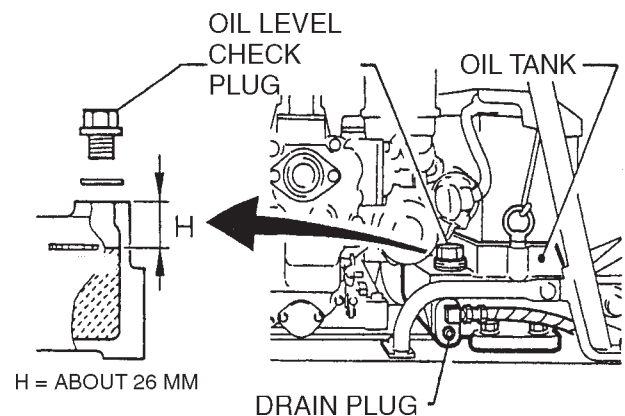

Figure 22. Hydraulic Oil Maintenance
1. Remove the drain plug (Figure 22) at the bottom of the oil tank with a 6 mm hex wrench and drain the hydraulic oil.